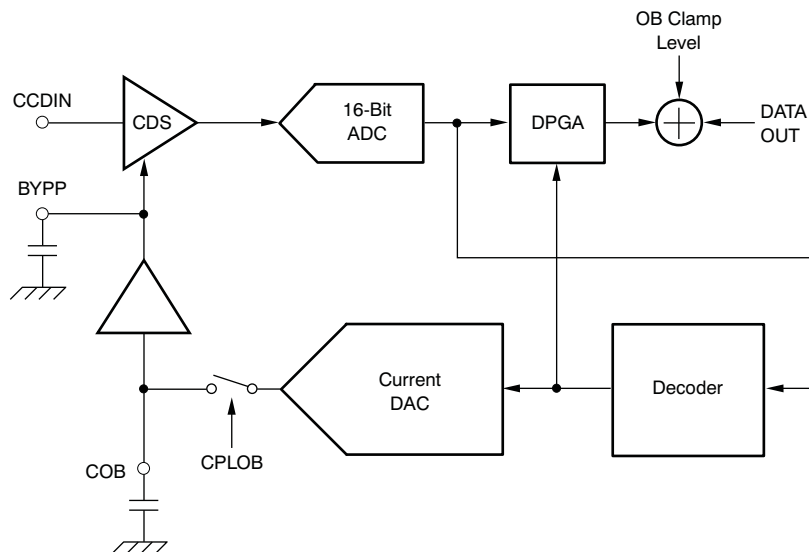

Figure 6. OB Loop and OB Level Clamp
The VSP2582 has a built-in OB offset self calibration circuit (OB loop) that compensates the OB level by using Optical Black (OB) pixels output from the CCD image sensor. A block diagram of the OB loop and the OB clamp circuit is shown in Figure 6. The CCD offset is compensated by this calibration circuit while activating CLPOB during a period when OB pixels are output from the CCD.